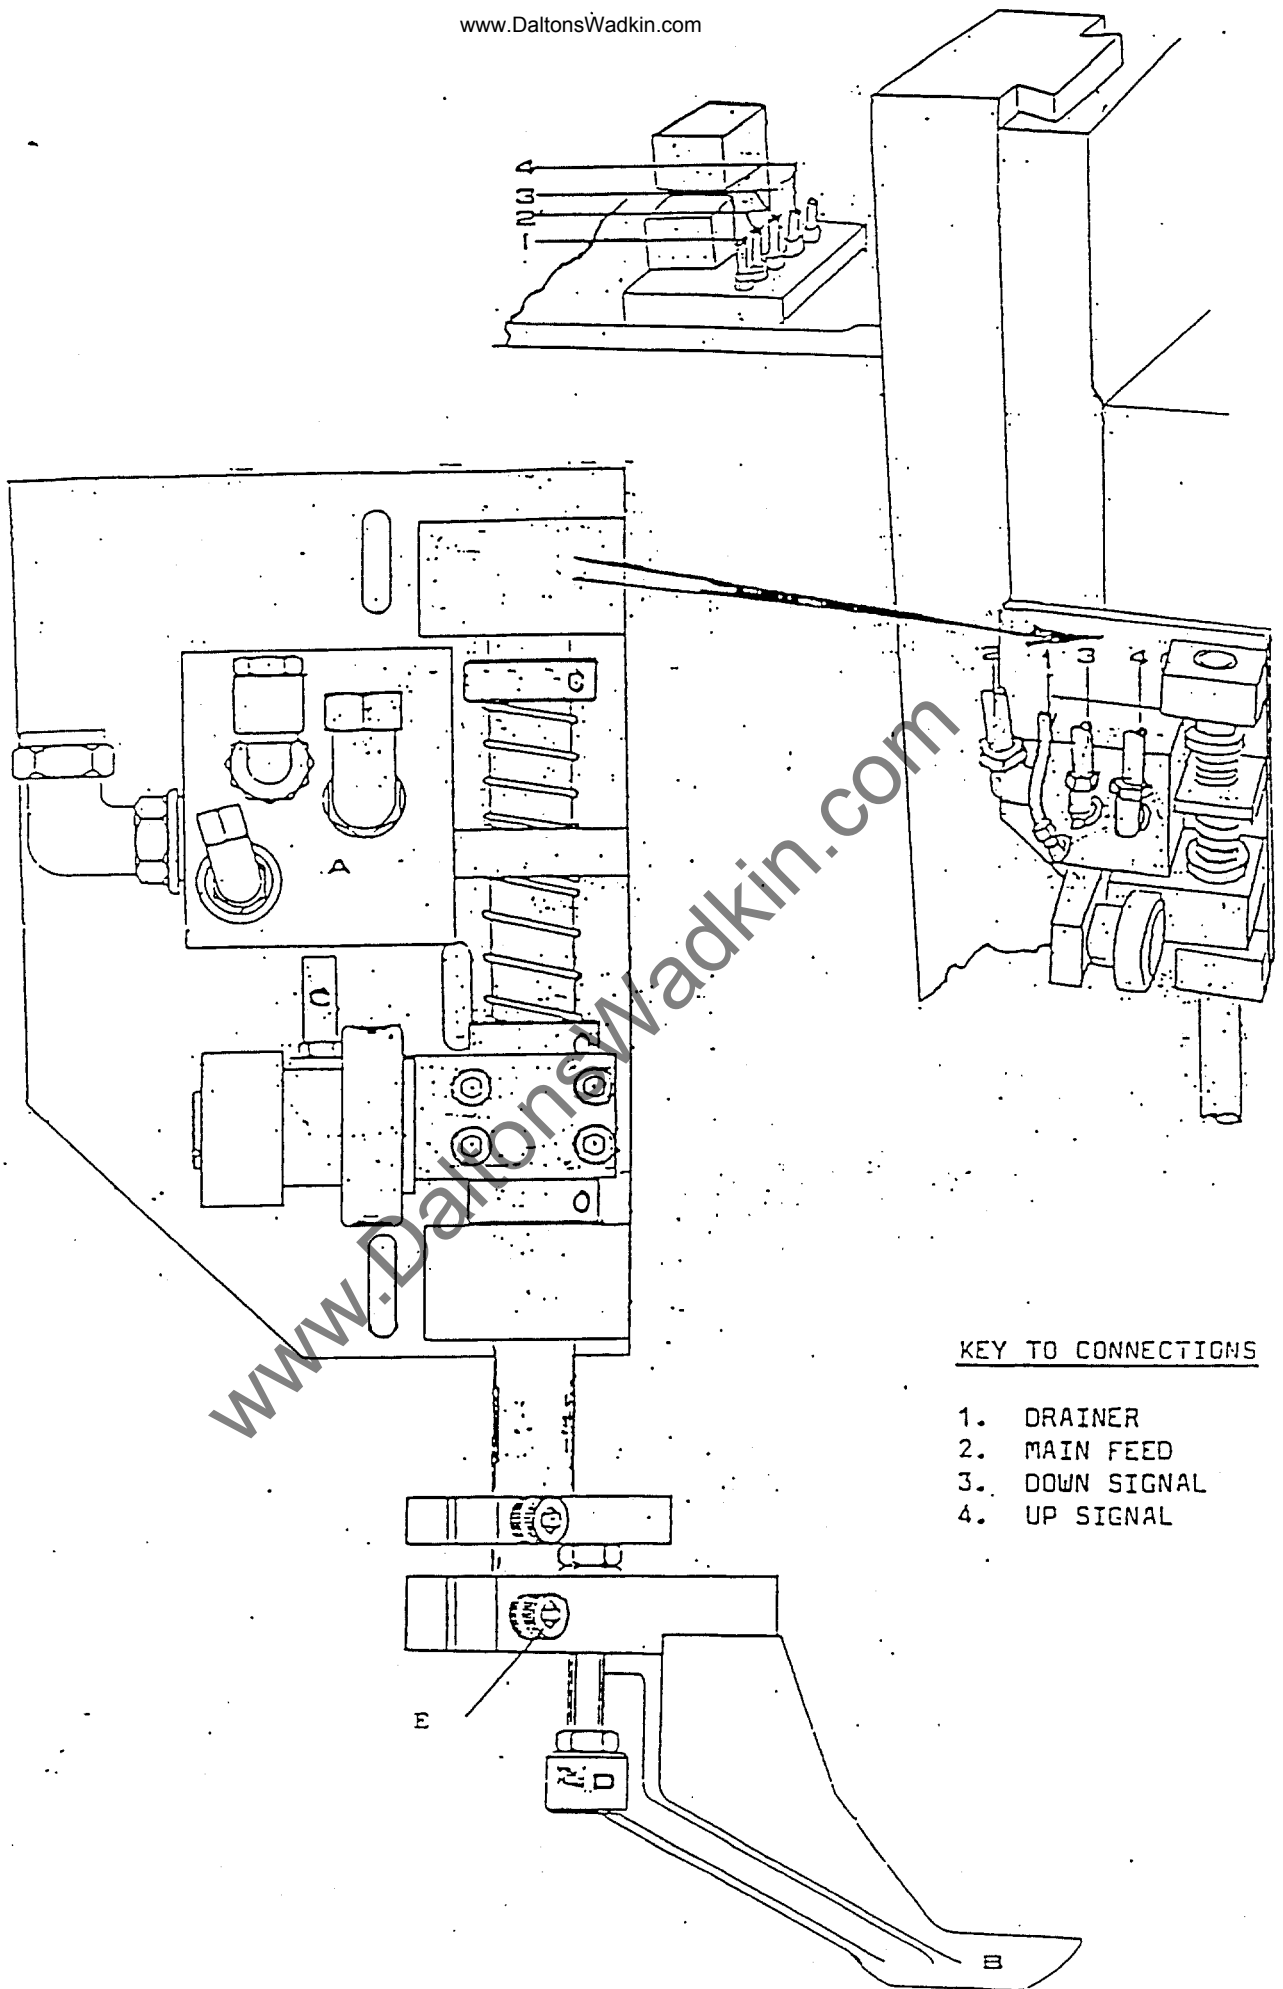

FIG. 14a FLOATING HEAD
4.10 STYLUS SETTING OF FLOATING HEAD (See Fig. 14a)
To alter the position raise the head to the top position, unlock screw (E) shown at Fig. 14a and turn screw (D) as required to raise or lower the follower position. Re-lock screw (C) and lower head back down onto test block and measure cutter protrusion/depth of cut. i.e. If a slot was to be cut in a component at 12mm depth the amount of protrusion below the follower of the cutter should be 12mm.